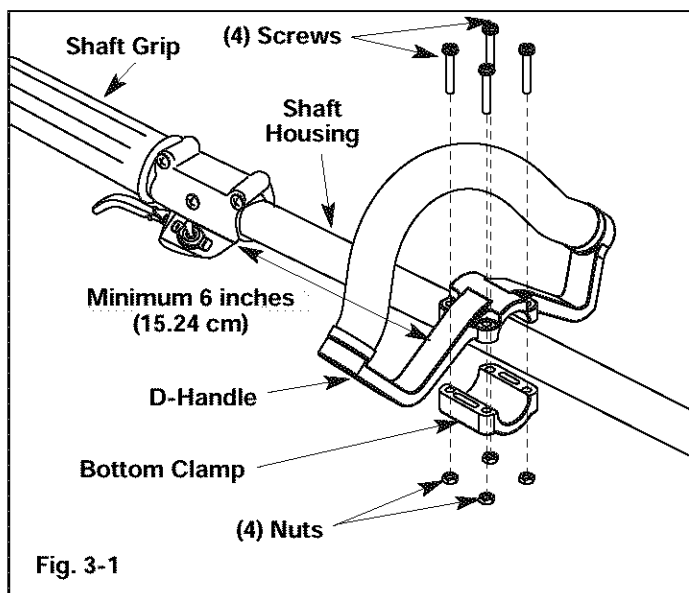

Fig. 3-1
2. Place D-handle the over the shaft housing and onto the bottom clamp (Fig. 3-1). Place it a minimum of 6 inches (15.24 cm) from the end of the shaft grip.